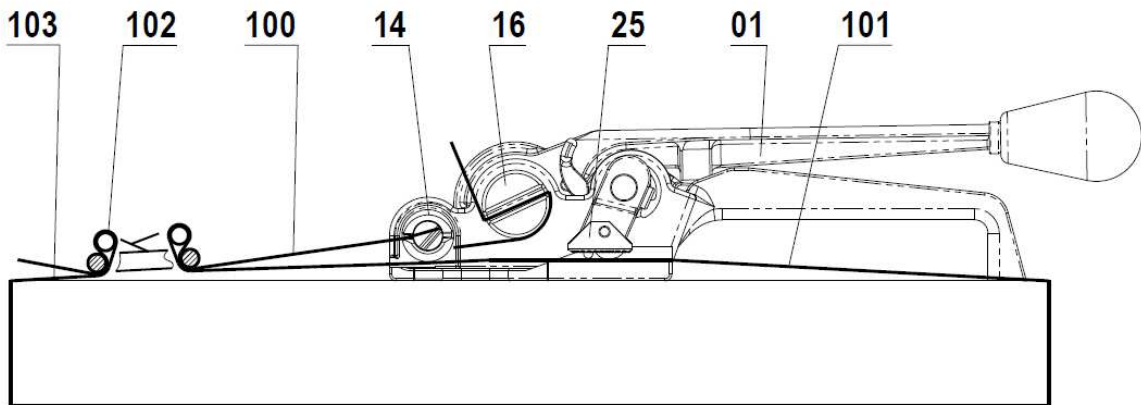

Fig. 5
4. Once satisfactory tension is achieved the strap is ready to be cut. Push down on the **Tension Handle 01** until the strap is cut and slide the tensioner to the right to release the strap from under the **Gripper Foot 25** as shown on Fig. 5. The operation cycle is now complete.